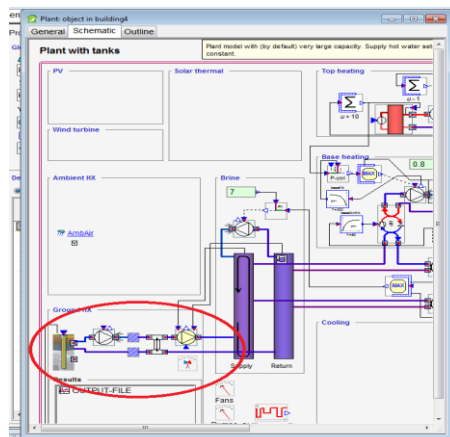

Figure 12: The schematic with replaced borehole component.
5. In the "Insert object" list mark "GHX\_MIR" and press ok. The schematic should now look like Figure 12.